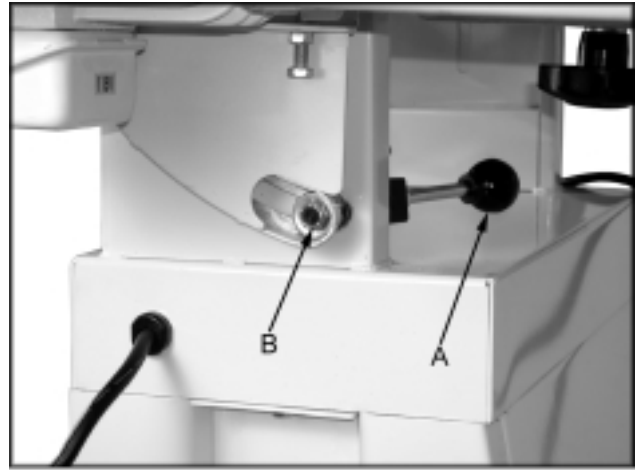

Fig. 9
2. Loosen lock handle by pulling forward (A, Fig. 9) and move motor and sanding table toward the horizontal position. Do not lock.
3. Tension eccentric block by tightening the nyloc nut (B, Fig. 9) with a 14mm wrench. Turn the nut in $\frac{1}{4}$ turn increments and test locking handle for proper tension. Locking handle is properly tensioned when it requires positive force to move the eccentric block (attached to the locking handle) from one side to the other. The platen and motor assembly must stay in a locked position without sliding once the handle has been moved to the locked position. Re-adjust as necessary.